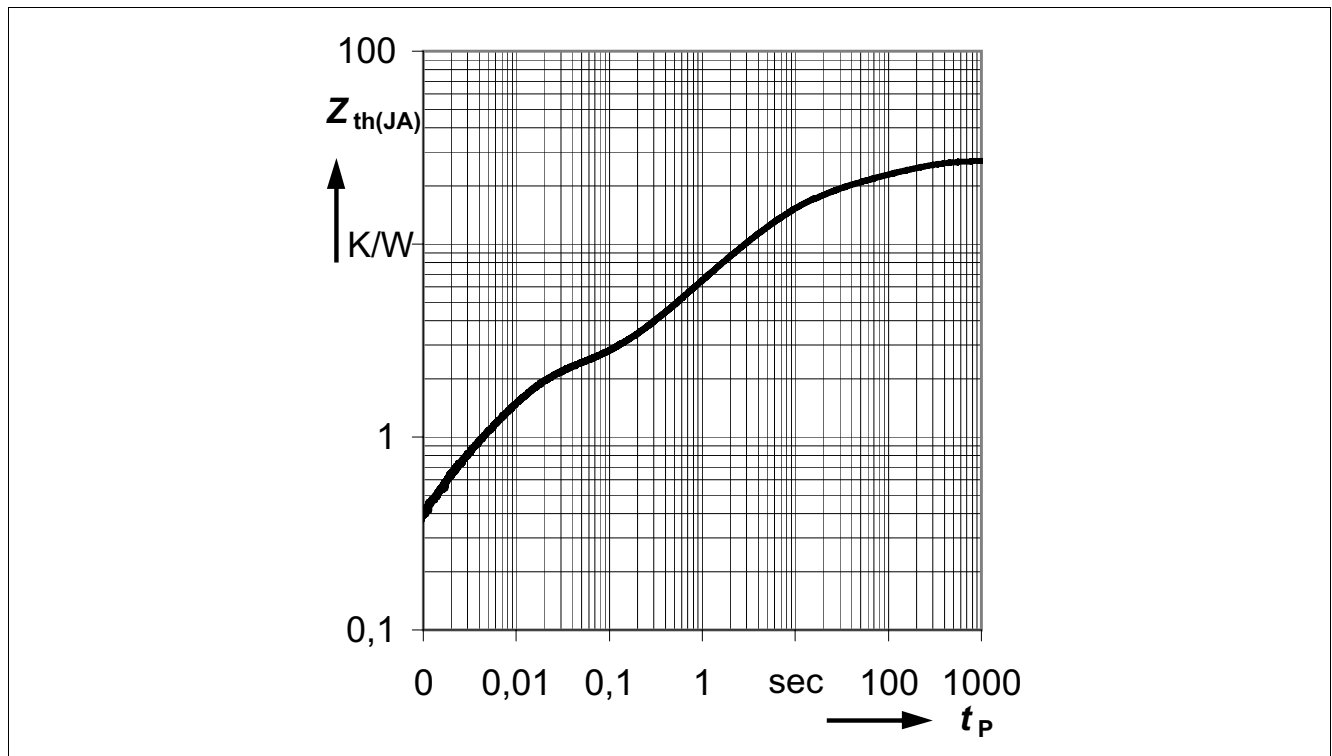

Figure 4 Transient Thermal Impedance $Z_{th(JA)}=f(t_p)$ ⁴⁾
- 4) Specified R_{thja} value and **Figure 4** are according JESD51_7 at natural convection on FR4 2s2p board. The BTS50060-1EGA was measured on a 76.2 x 114.3 x 1.6 mm board with 2 inner copper layers (2 x 70µm Cu, 2 x 35µm Cu) applying power losses of 1.4W at the channel. According to JESD51-5 a thermal via array under the exposed pad contacted the first inner copper layer. $T_a = 25\text{ °C}$.
Figure 4 shows the typical transient thermal impedance of BTS50060-1EGA.